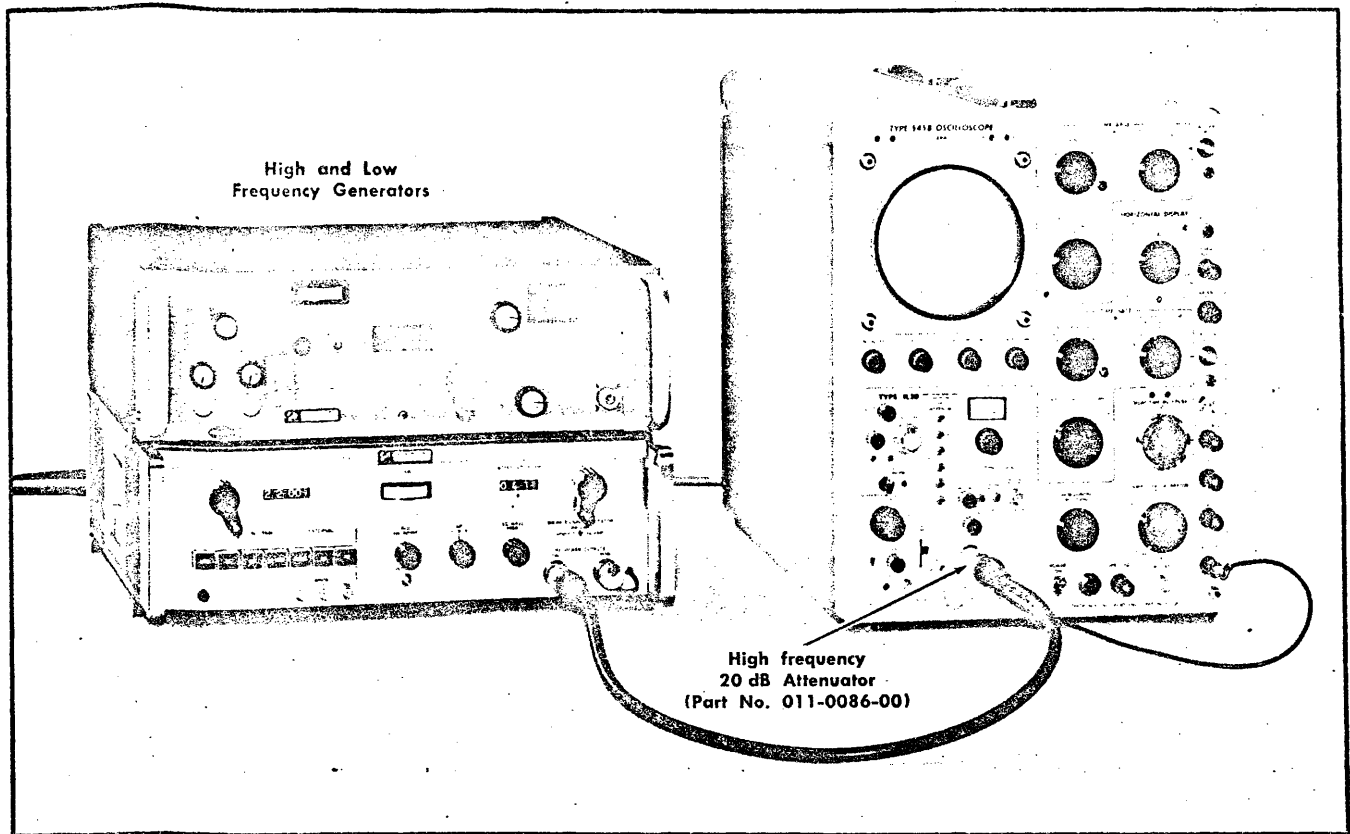

Fig. 6-27. Typical equipment setup to check sensitivity, dial accuracy and phase lock operation (step 18).
a. Equipment setup is shown in Fig. 6-27.